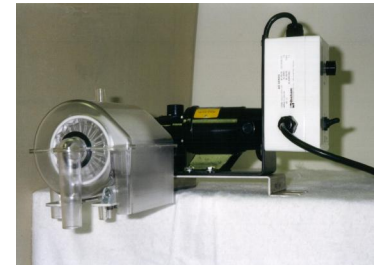

Figure 5
5. Tilt Filter Assembly backwards into the single support on the back of the Support Stand, Figure 5. Make sure the holes in the Filter Assembly line up with the holes in the supports. If they do not, repeat steps 4 and 5 until this alignment occurs.